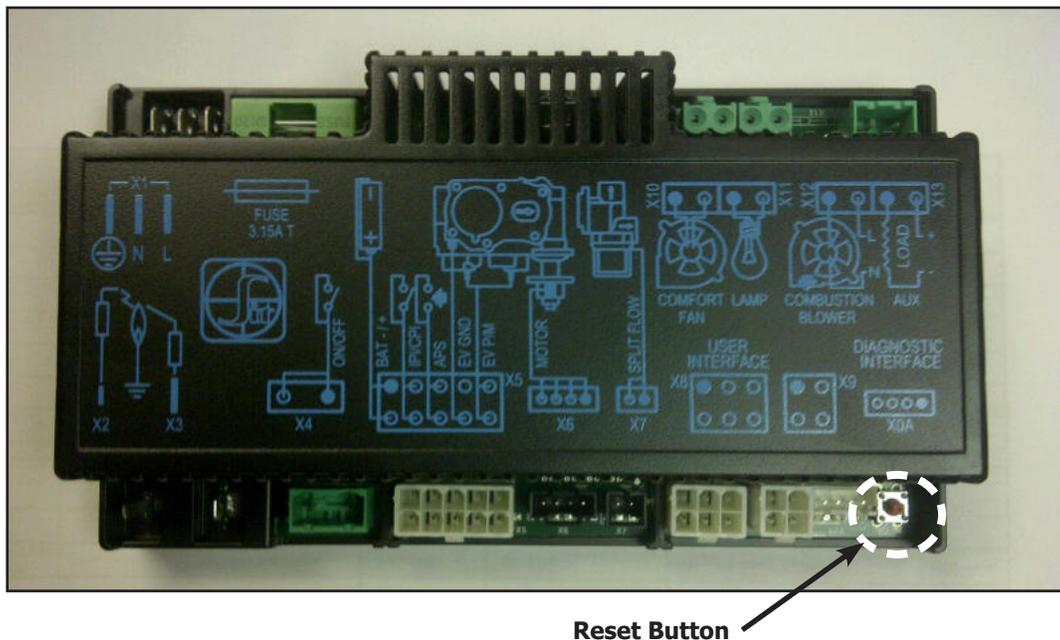

Figure 6: Integrated Fireplace Controller
The Proflame 2 IFC (Figure 6) connects directly to the gas valve, stepper motor, pilot and convection fan with a wiring harness. The IFC is mainly powered by 120 VAC but can also run off a battery backup four (4) AA type batteries for shorter periods of time. The IFC accepts commands via radio frequency from the Transmitter to operate the appliance in accordance with the particular Proflame 2 system configuration. The IFC has a red reset button at the front right corner that is used to synchronize the Transmitter when using the for the first time, or after the batteries have been replaced.
Install the four (4) AA batteries into the IFC battery holder. Note the polarity of the battery and insert into the battery bay as indicated on the body of the battery holder. Press the reset button on the IFC marked "SW1" (see Figure 6).